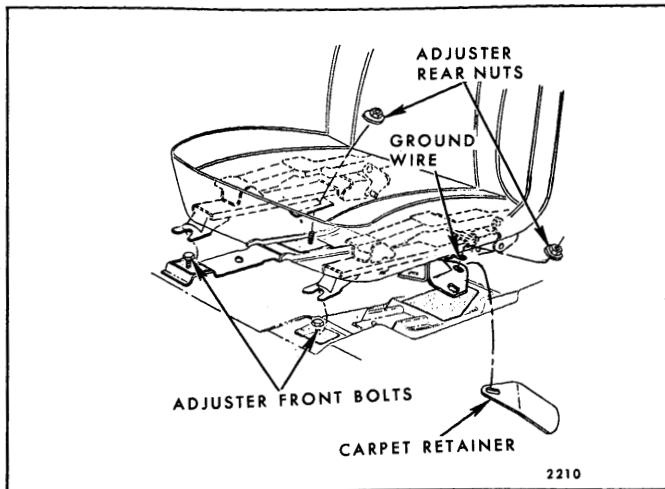

Fig. 10-29—Bucket Seat Floor Rear Attachment - "A" Styles
2. Turn back floor carpeting sufficiently to expose seat adjuster-to-floor pan attaching nuts or bolts (Fig. 10-29 or 10-30).
3. a. On "A, X & Z" body styles loosen adjuster-to-floor pan front attaching bolts (Fig. 10-29). Operate seat to full forward position. Remove adjuster-to-floor pan rear attaching bolts, then, slide seat rearward sufficiently to disengage front legs of adjusters from under front attaching bolts and remove seat assembly from body.
3. Remove seat adjuster-to-floor pan rear attaching bolts (Fig. 10-29 or 10-31); then, operate seat assembly to full rearward position.
4. a. On "A" Body Styles with power operated four-way seat adjusters loosen adjuster-to-floor pan front attaching bolts (Fig. 10-29), then, slide seat assembly rearward until front legs of adjusters are disengaged from under front attaching bolts. Tilt seat rearward sufficiently to disconnect seat harness feed connector and detach harness from clip